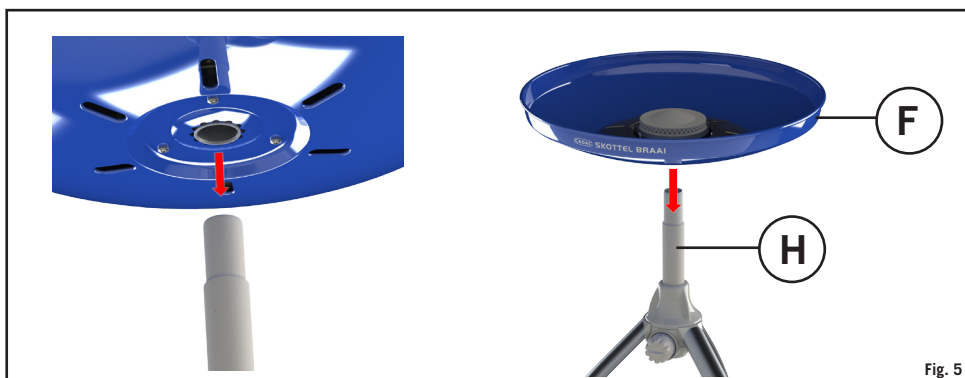

Fig. 5
- Fit the Burner Pan(F) onto the Stem(H), and ensure is sealed properly. (Fig 5)